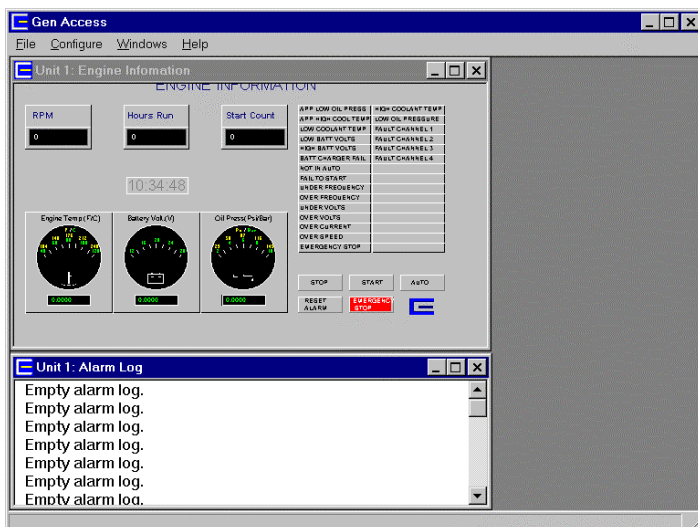

Figure 4.12 The Alarm Log window and the Engine Information window.
Step 9. Display Alarms: Right click in the Engine Information window to bring up the pop-up menu, then select Alarm Log from the menu. The Alarm Log window appears on the screen. Since Alarm Log is not a main view, it can exist together with a main view window, see Figure 4.12.